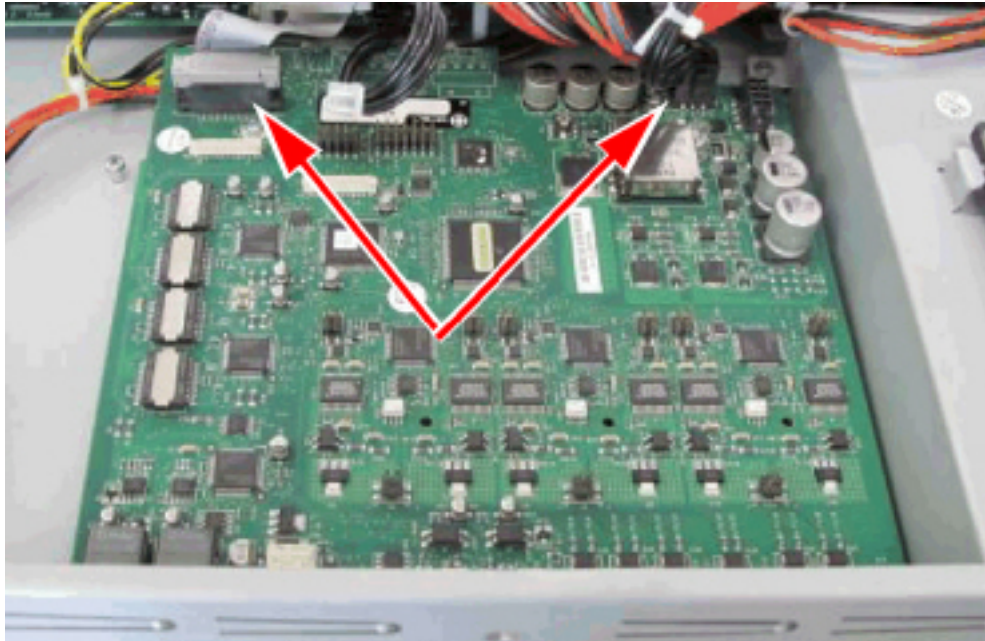

Figure 7.10: AMB - Disconnect Cables
3. Remove the AMB as follows referring to Figure 7.10: